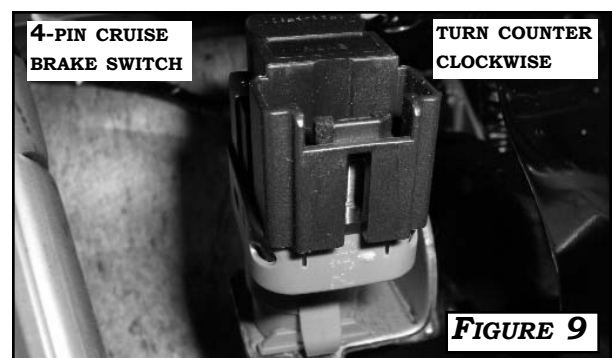

FIGURE 9
2. **CAUTION:** PRESS IN THE BRAKE PEDAL AND HOLD. WHEN INSTALLING THE BRAKE SWITCH POSITION THE SWITCH IN THE DIAGONAL HOLE OF THE BRACKET SO THAT THE SWITCH CAN BE TURNED COUNTER CLOCKWISE. RELEASE THE BRAKE PEDAL IN AT REST AND TURN THE BRAKE SWITCH COUNTER CLOCKWISE TO LOCK THE SWITCH INTO PLACE. **FIGURE 9**. **BE SURE TO CHECK THE FOLLOWING READINGS WITH AN OHMMETER BEFORE DRIVE TESTING:**